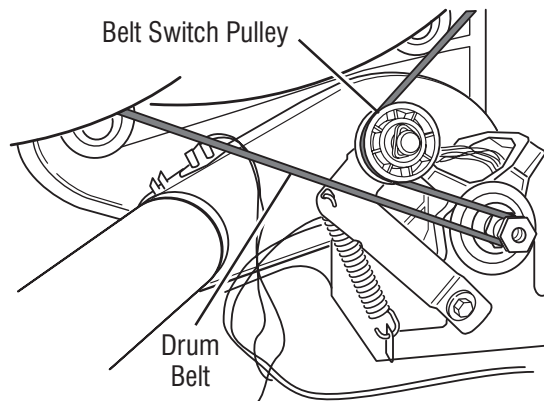

Figure 16 - Slowly remove drum belt.
7. Check the drive motor and belt switch. Slowly remove the drum belt from the spring-loaded belt switch pulley, gently letting the belt switch pulley down. See figure 16.